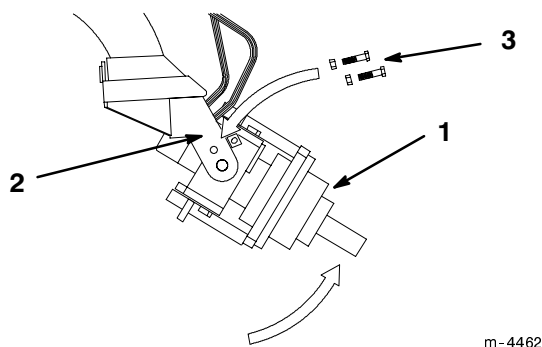

Figure 3
3. With the drive head in a vertical position, slide two 5/8"-11 x 3-1/2" bolts into the notches and holes in the front and back cradle arms and drive head (Fig. 3).
5. Manually rotate the auger drive head up and slide two 5/8"-11 x 3-1/2" bolts through the holes in the left and right cradle arms (Fig. 3).